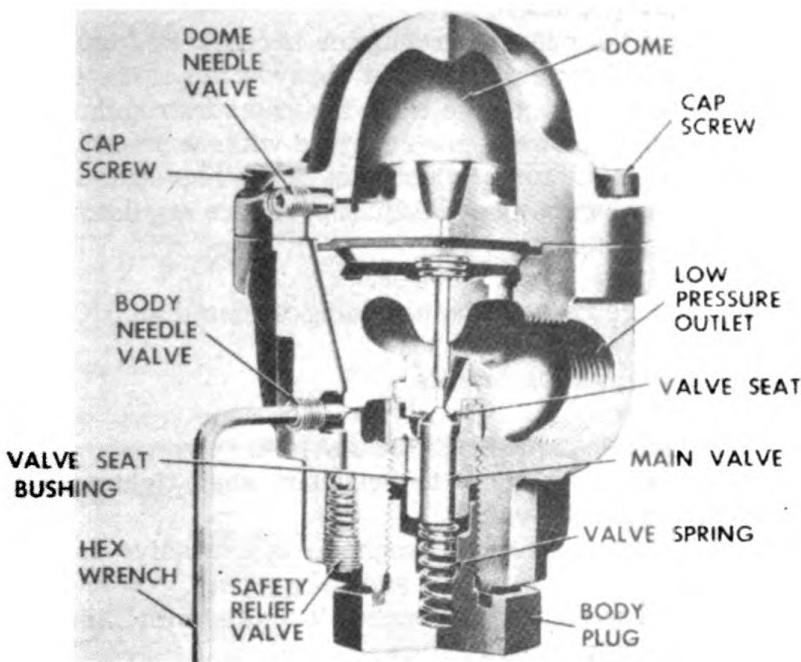

Fig. 56. Cutaway view of pressure regulator.
When properly adjusted, the pressure regulator (fig. 56) automatically reduces the pressure of approximately 1,800 pounds per square inch (in pressure container) to pressure of 370 to 380 pounds per square inch, which is required to propel fuel from weapon and operate weapon. The regulator is the dome type, with the diaphragm governing internal opening and keeping outlet pressure constant. The diaphragm is air loaded (rather than spring loaded or weight loaded). The pressure regulator is installed between the high and low pressure system. Removal of the pressure regulator from the pressure regulator assembly should not be attempted by first or second echelon. If pressure regulator becomes defective, replace pressure regulator assembly as a unit.
(6) A safety relief valve (fig. 56) is located below dome and body needle valves to prevent excessive pressure from entering the dome during adjustment of the regulator. This relief valve is preset at the factory; do not adjust.
b. Tightening dome. Using hex wrench, tighten the cap screws which hold dome tight to body of regulator (fig. 56). (If cap screws work loose, compressed air usually leaks from the dome, causing a continual drop in pressure delivered to the fuel container.) Do not tighten jack screw, which is located between two of the cap screws holding dome to body of regulator.
(1) Close pressure tank valve.
(2) Close pressure cut-off valve.
(3) Release all pressure from fuel container.
(4) Using wrench, remove body plug (fig. 56).
(5) Remove valve spring and main valve (fig. 56), being careful not to drop or damage them.
(6) Clean main valve and valve spring with a clean dry cloth.
(7) Insert a small piece of wood or other blunt instrument, covered with a clean dry cloth, into valve seat bushing. Clean valve seat by rotating instrument with the fingers. Be careful not to scratch or damage valve seat or washer.
(8) Replace main valve, valve spring, and body plug.
(9) Adjust and test pressure regulator. If low pressure gage indicates a rise in pressure after main valve and valve seat have been cleaned, replace pressure regulator assembly.